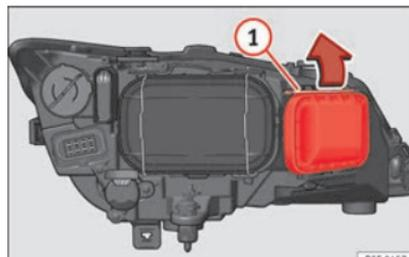

Fig. 208 Turn signal bulb.
- Move the loop » Fig. 208 ① in the direction of the arrow and remove the cover.